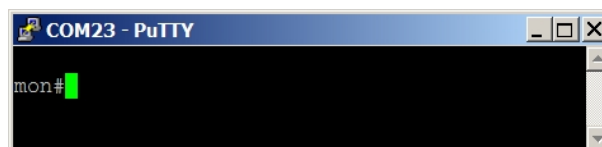

Figure 5: Open terminal window for module configuration via serial line
Click on „Open” button in „PuTTY” program and open the terminal window. After pressing of „ENTER” key there will appear a command prompt „mon#” which announces that the module is ready to be configured (see figure 5).
- the command must be entered only when a prompt for command appears in front of the cursor mark (colored or flashing little square); the prompt is either „mon” or „mon” format (see figure 5);